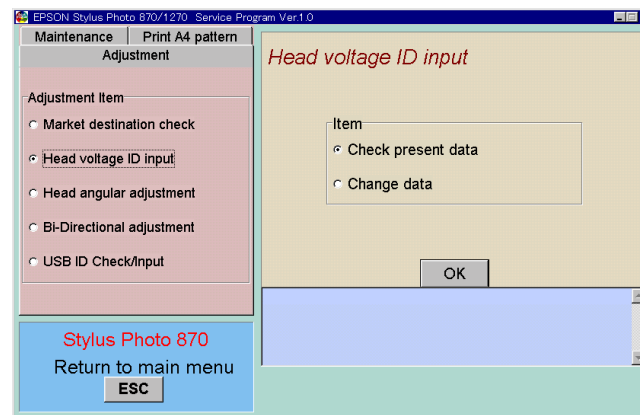

Figure 5-12. Head Voltage ID Input Menu
- Select **Head voltage ID input** from the menu. The head voltage ID input window appears. (See Figure 5-12.)